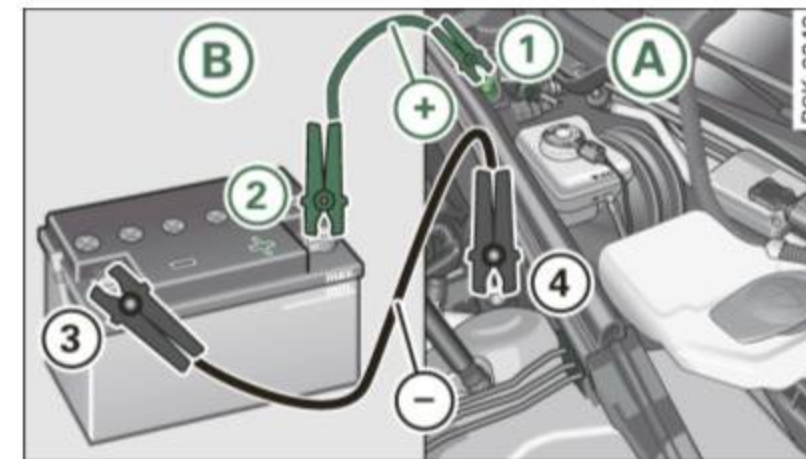

Fig. 233 Jump starting with the battery of another vehicle: (A) discharged vehicle battery, (B) booster battery
- 1. Connect one end of the positive cable (red) on the **jump start bolt** ⇒ *page 329*, fig. 233 ① (Bolts under red cover = “positive”) of the vehicle to be started ②.
- 2. Connect the other end to the positive terminal ③ of the booster battery ④.
- Please note that the procedure for connecting a jumper cable as described above applies specifically to the case of your vehicle being jump started. When you are giving a jump start to another vehicle, do *not* connect the negative (-) cable to the negative (-) terminal on the discharged battery ④ ⇒ *page 329*, fig. 233. Instead, securely connect the negative (-) cable to either a solid metal component that is firmly bolted to the engine block or to the engine block itself. If the ►